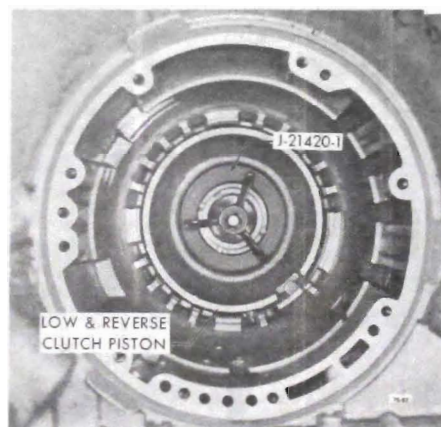

Figure 75-245
6. Install spring retainer and retaining ring. Using Tool J-21420-1 compress return seat so spring retainer retaining ring may be installed with snap ring pliers. See Figure 75-245.